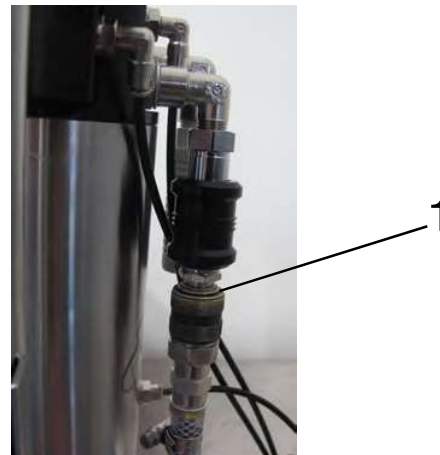

Fig. 1-3 1 Ring on the air-release valve
- Push and hold the compressed air hose upwards, press the ring (1, Fig. 1-3) down and pull the hose downwards to remove it.